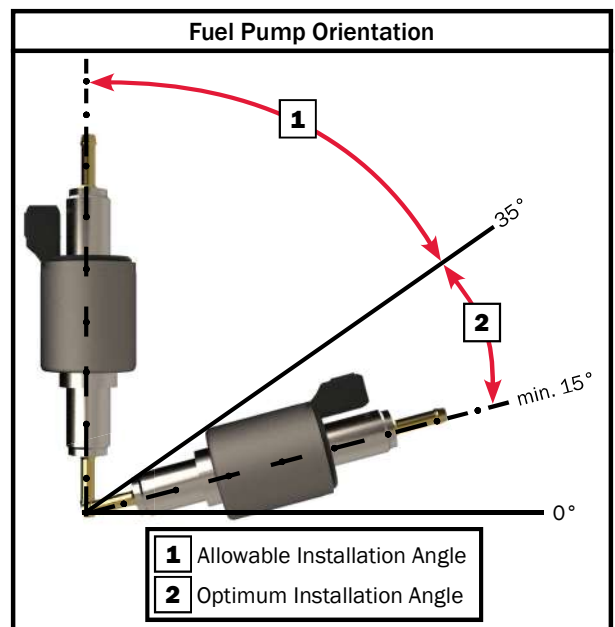

Figure 87
- Fuel Pump is required to be installed horizontally. It is not recommended to mount the assembly rotated 180° (see Figure 87).